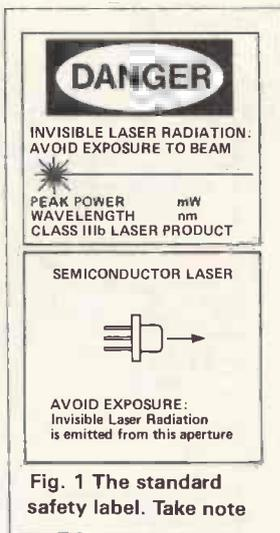

Fig. 1 The standard safety label. Take note
Figure 1 reproduces the standard laser safety level for non-visible output lasers. The top line means what it says! Although the dispersion angle of semiconductor lasers is quite wide (minimum 8°) there is a lot of power available in addition to the small percentage of visible light. It may not look very bright, but your eyes can be damaged permanently by the invisible infra-red (IR) emission. With this diode 30cm is the absolute minimum safe viewing distance and even this is not advisable.